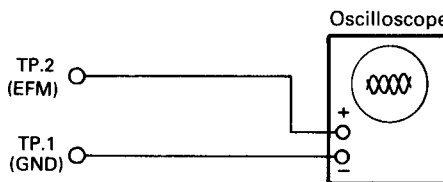

Fig. 33
- 1) Connect the oscilloscope to TP. 2 (EFM) and TP. 1 (GND) (Fig. 33).